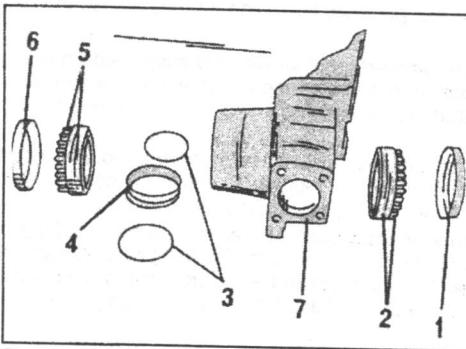

Fig. 5.10. — The component parts of a dismantled steering knuckle.
- Place the steering knuckle over a vice and drive the two bearings (2) and (5) in Fig. 5.10 out of the knuckle. The two grease seals (1) and (6) will come away together with the bearing.
- Grip the end of the bolt (1) and move it to and fro, at the same time observing the dial gauge reading. The indication should be between 0.025 and 0.10 mm.
- If the clearance is not within the limits, shims (7) in Fig. 5.10 must be increased or decreased in their thickness. Shims are available in different sizes.
- Grease the bearing (5) in Fig. 5.10 and drive it into the steering knuckle. Fit the grease seal (6) into the steering knuckle until the outside is flush.